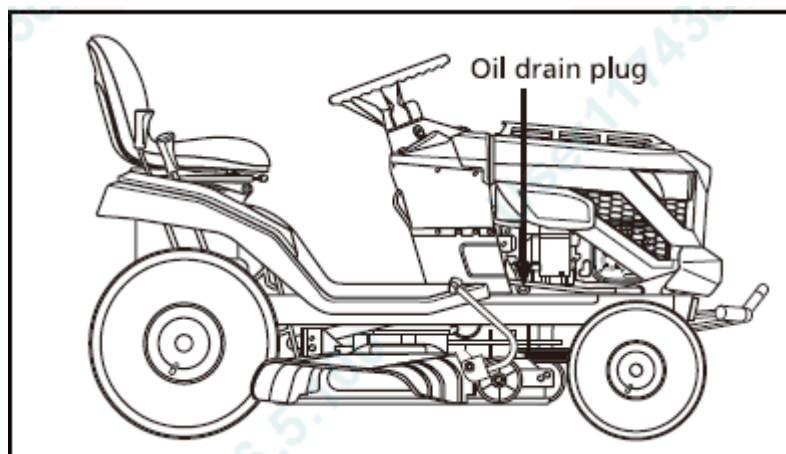

Fig.32
1. Put the unit on a level surface as shown in Fig. 32.